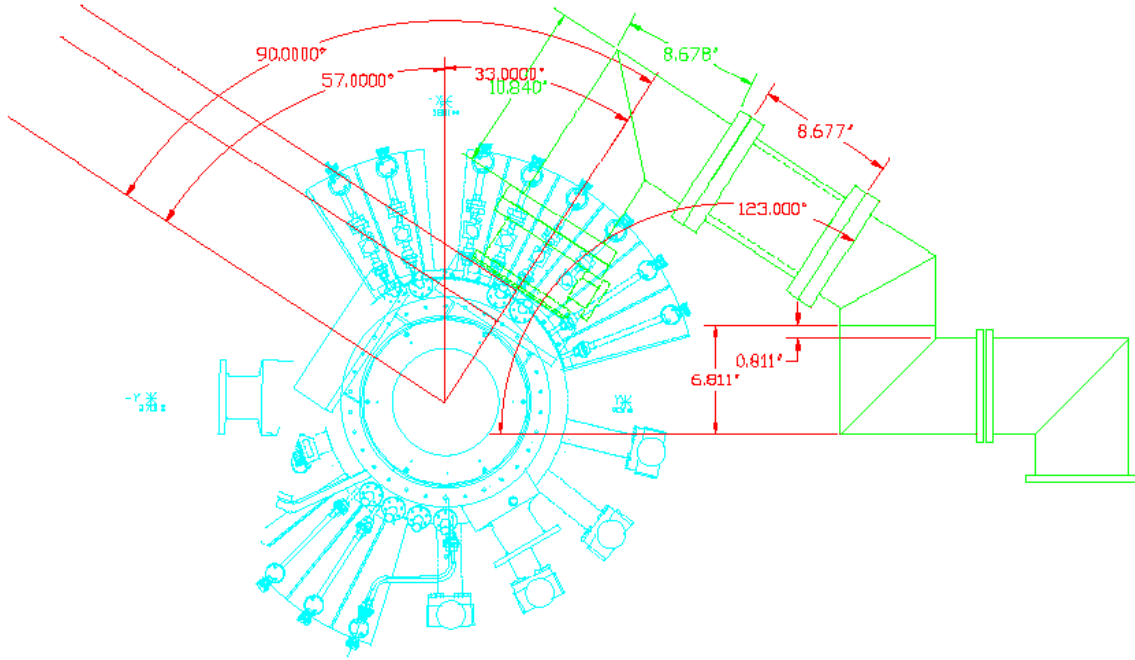

Figure 1: Pumping System Connection to Probe C
10.1.1 Connect the pumpout manifold GSE to the appropriate pumpout port such that it is possible to connect to the pumping cart and the probe's -X axis pointing up. If possible, connect the pumpout manifold in sections, with the section closest to the probe going on first. This makes it possible to connect a small, easily maneuverable object to the delicate flight flange. See Figure 1. _____